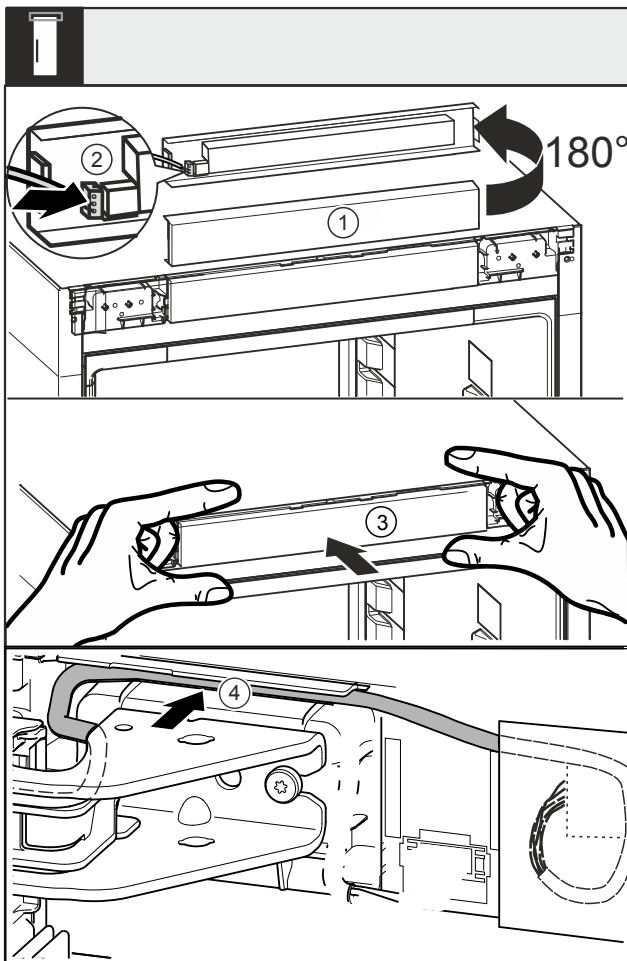

Fig. 47
- ▶ Turn the trim Fig. 47 (1) up by 180°.
- ▶ Engage the plug Fig. 47 (2) on the control panel trim.
- ▶ Re-engage the trim Fig. 47 (3) on the appliance.
- ▶ Lay the cable carefully in the guide Fig. 47 (4) above the top swap bearing block.